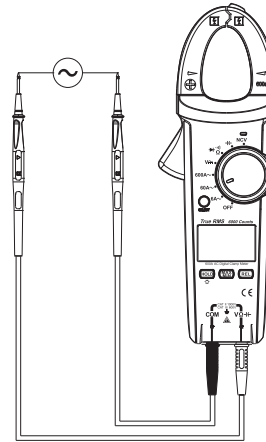

Figure 4
**2. AC voltage measurement (see Figure 4)**